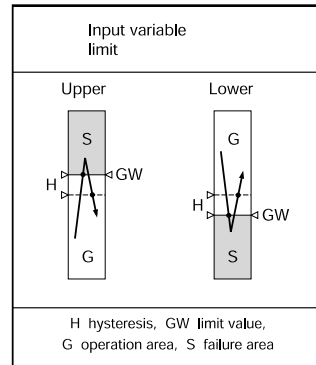

Fig. 3
- for monitoring the input variable in relation to a lower or upper limit between -10 and 110%² (see left side of Fig. 3)